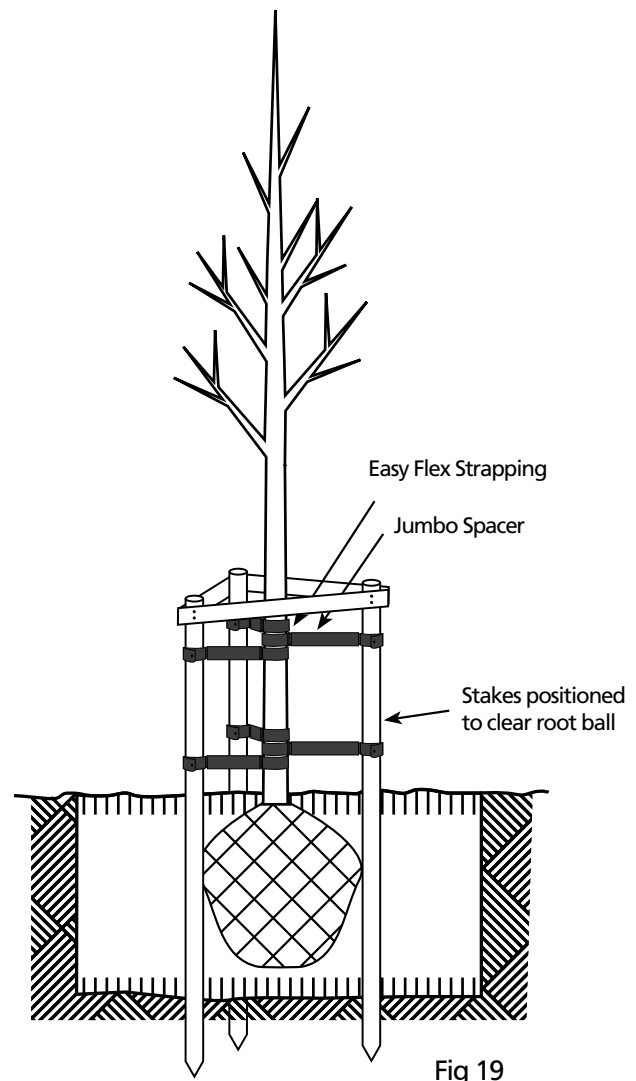

Fig 19
This system is for trees usually at least 3.2 meters in height and planted in urban areas which are subject not just to wind loads but potentially accidental damage from pedestrians, vandalism and maintenance work (fig19). As the trees will have a stem length greater than 1.1 meters (3½ feet) it is most important the root ball is held very firmly and the stem does not bend just above the root ball or flexes underneath a single tree tie. We therefore need two levels of tree tying in such applications where the two levels actually offer different types of support that the young tree needs for its best development. The highest tree tie point comes at the usual 1/3 of tree height and here the tree needs some slight movement in the stem in order to allow the tree to develop its own resistance to wind loading so when the tree tie system is removed the tree can continue to grow and be resistant to wind loading. We need a further lower tree tie now which stops the lower part of the stem from moving as the upper tree sways slightly in windy conditions. The tree tie above the root ball prevents any movement at all to protect these initially fragile root hairs where most of the trees nourishment is coming from and future anchoring strength. To prevent the possibility of accidental damage to the tree stem we need to surround it by three strong stakes so passing traffic will not be able to rub against the tree stem without first hitting one of the stakes.
1) Position three stakes, equidistant apart (fig19), vertically in good solid ground at least 100 mms or 4 inches outside of our tree pit hole we have made to safely accommodate our root ball. The tree stakes which should be at least 75 mm (3 inches) in diameter need to stand at least 1/3 of the way up our tree and have at least 1/2 as much again to be under the ground level to provide us with a good firm anchorage point. One of the three stakes should be positioned in a line from the centre of the tree into the prevalent wind direction. A cross bracing system near the top of the three stakes will increase the strength of the staking structure which is desirable.